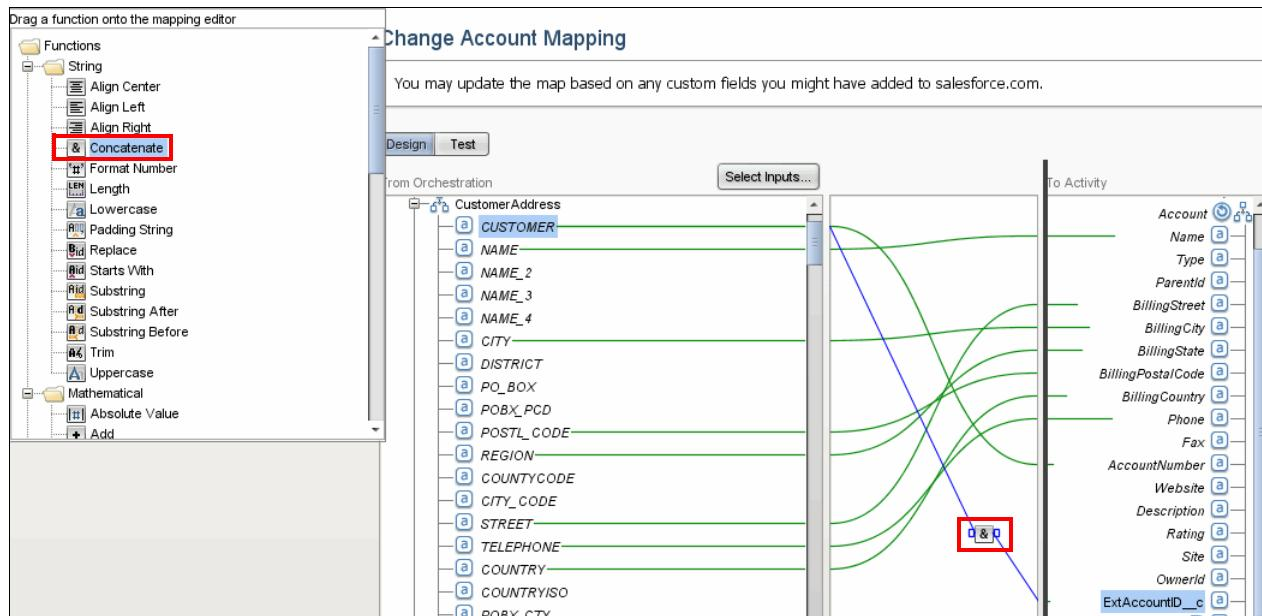

Figure 10-21 TIP wizard enhance mapping for ExtAccountID
4. Grab the **Concatenate** function, and drop it on the link between CUSTOMER and ExtAccountID_c, as shown in Figure 10-21. Double-click the created Concatenate (&) symbol to open the concatenate function.